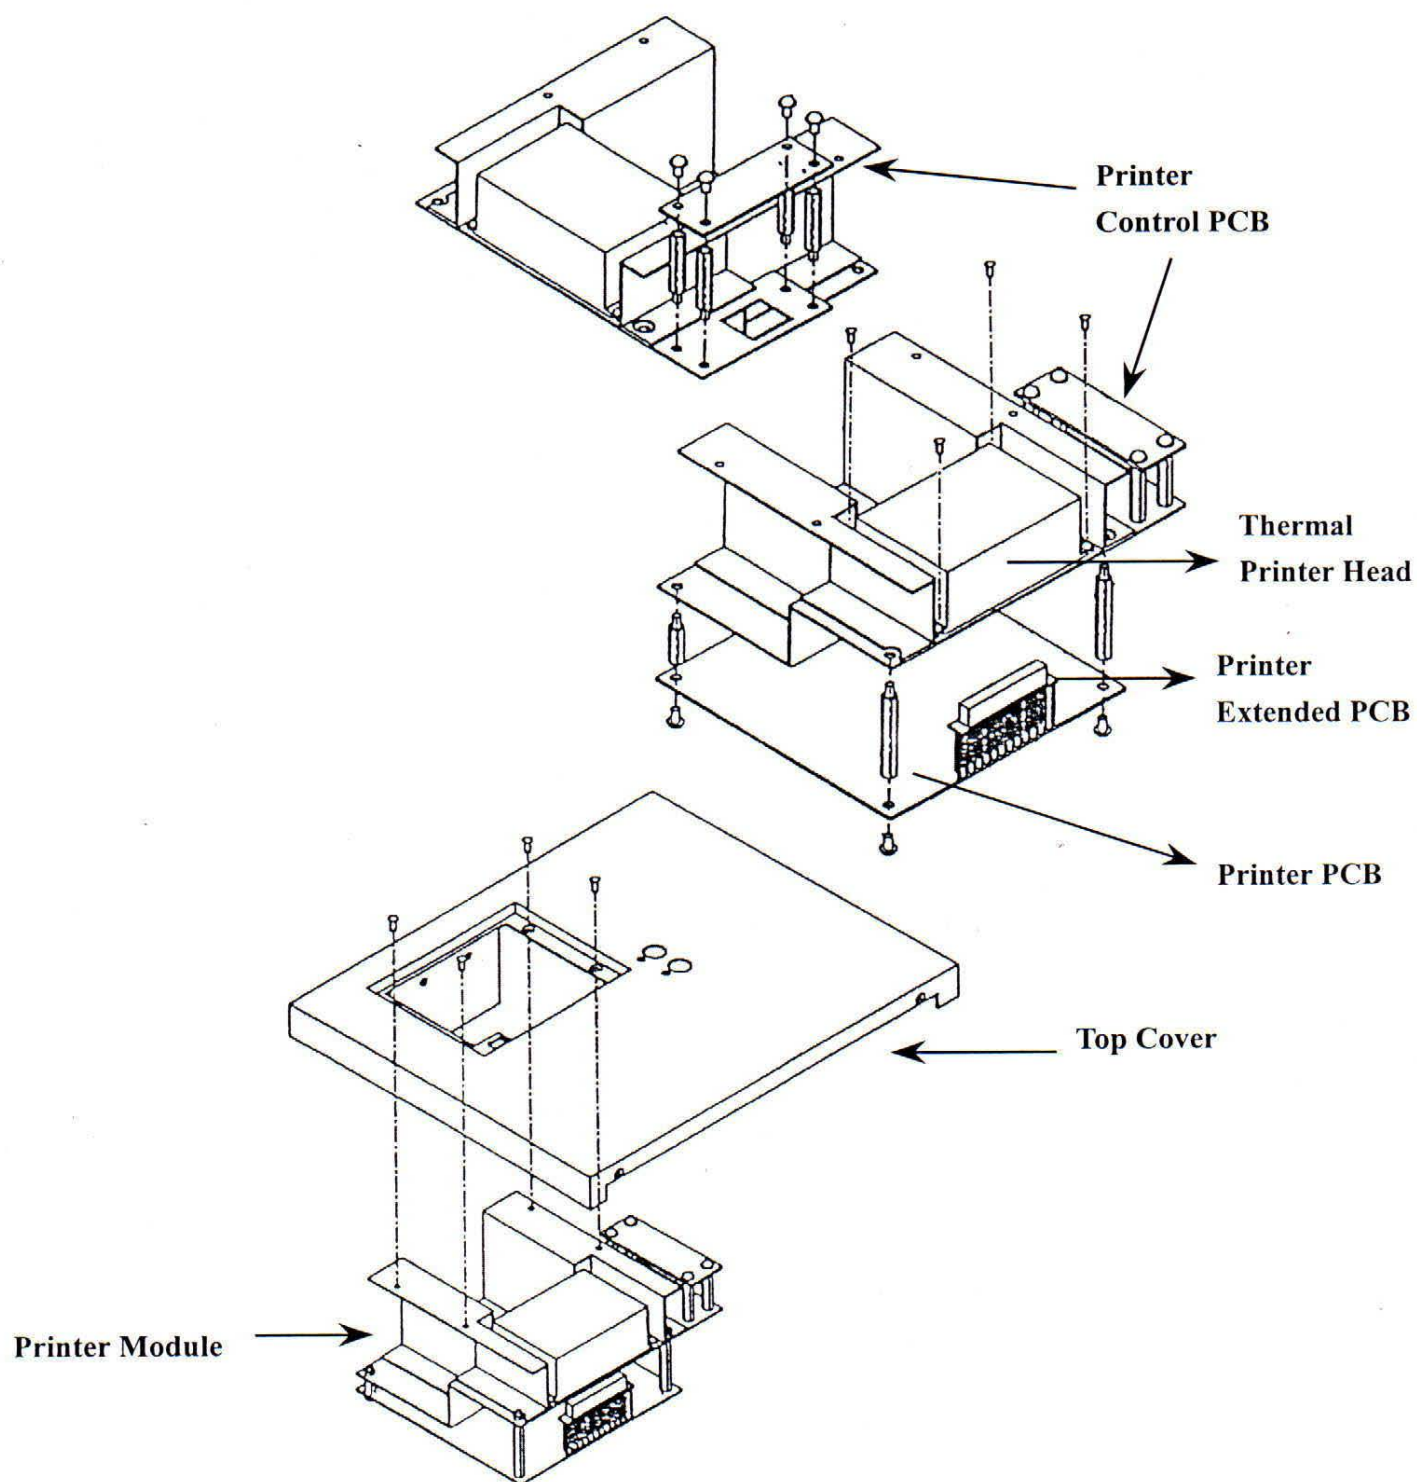

Figure 3-12. Printer Module Replacement 2.
8. Remove the four screws on the top of the printer chamber (Figure 3-12, lower).
- c. Remove the four screws on the backside of the printer PCB (Figure 3-12, medium).
- a. Remove the four screws on the printer control PCB (Figure 3-12, upper).
- b. Fasten the four screws on the backside of the printer PCB (Figure 3-12, medium).
- c. Fasten the four screws on the printer control PCB (Figure 3-12, upper).
5. Fasten the four screws on the top of the printer chamber (Figure 3-12, lower).